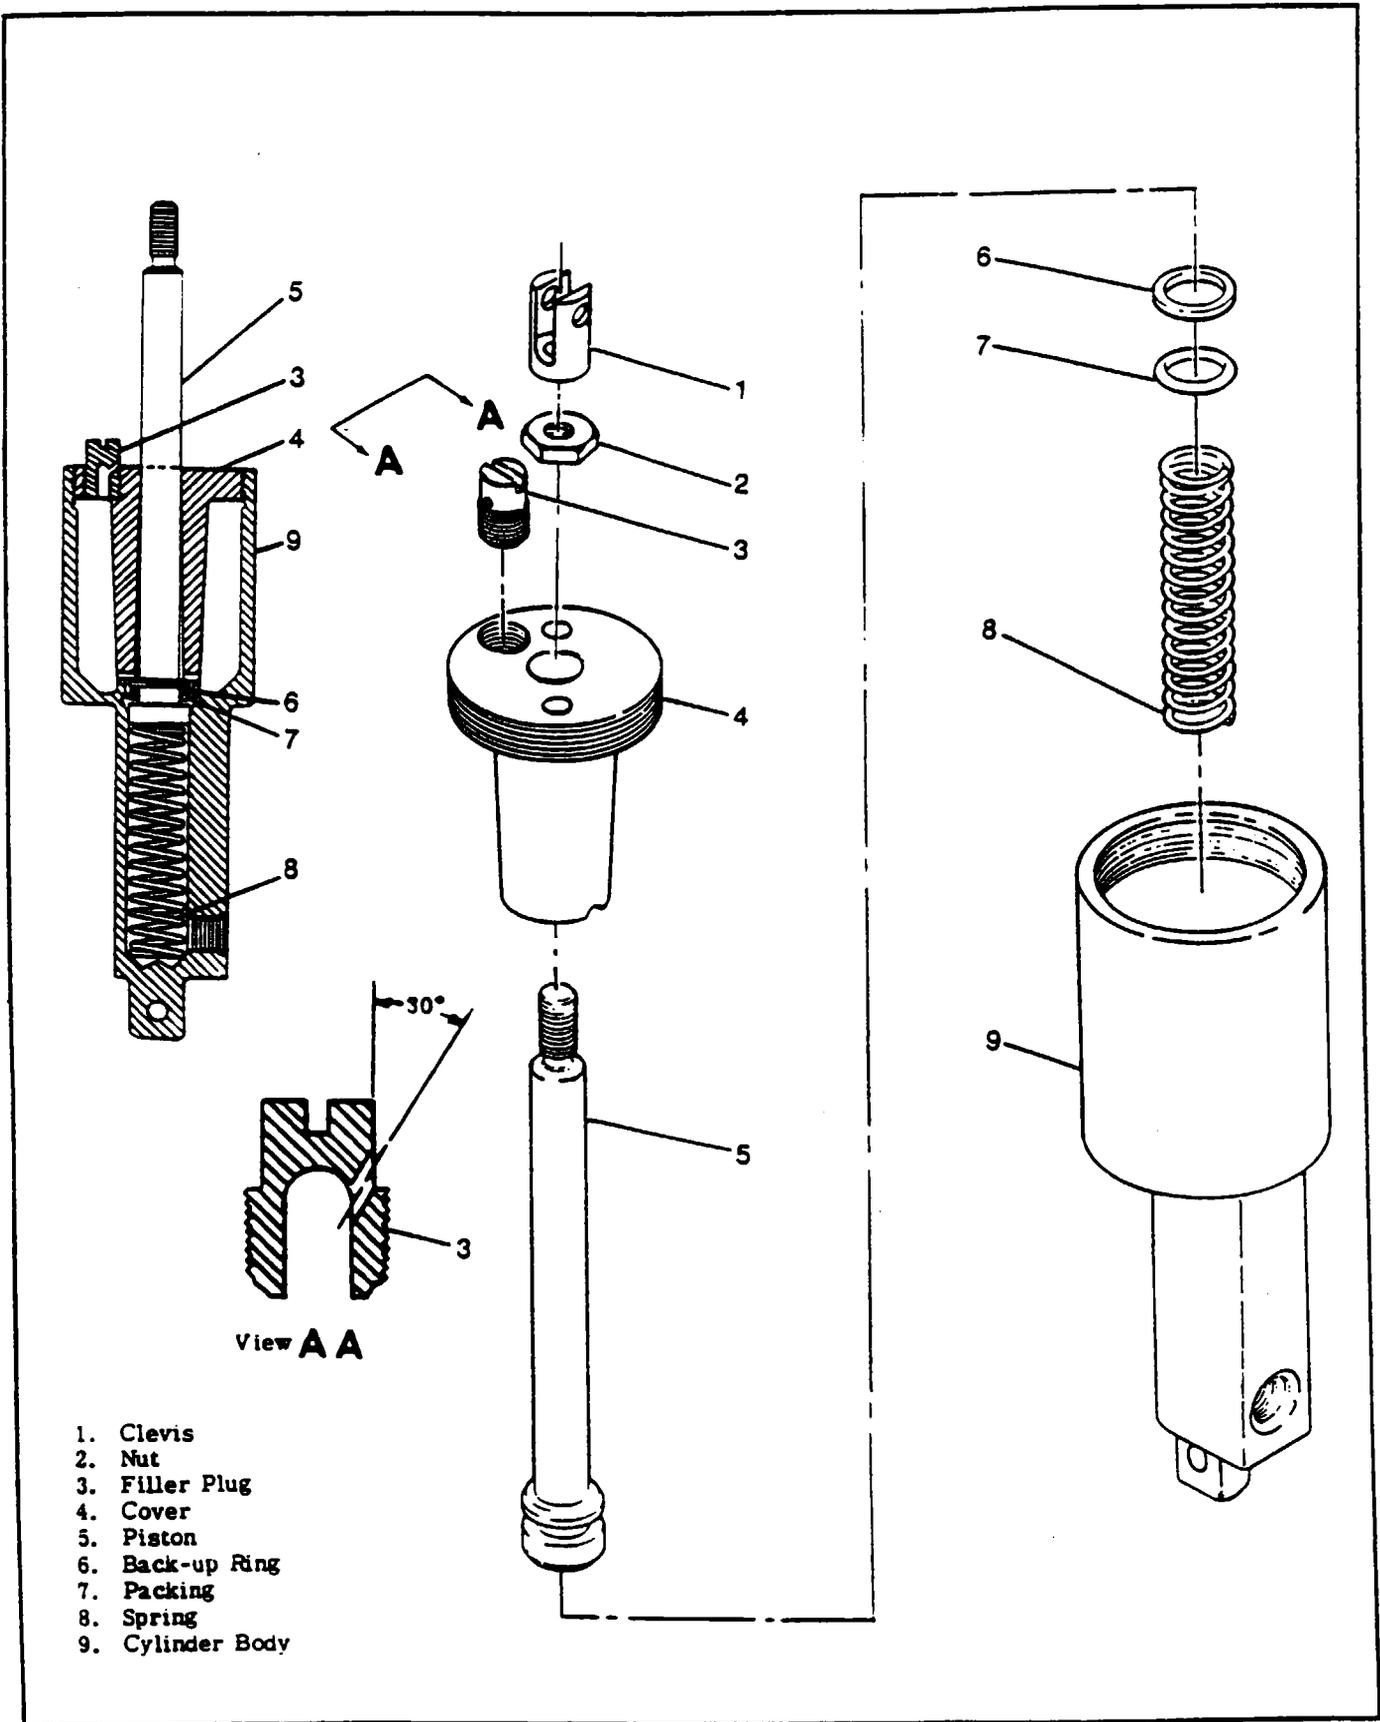

Figure 5-28. Master Brake Cylinder
5-137. BRAKE MASTER CYLINDER. (Refer to figure 5-28.)
5-140. DISASSEMBLY. (Refer to figure 5-28.)
- c. Unscrew cover (4) and remove up over piston (5).
- d. Remove piston (5) and spring (8).
- e. Remove packing (7) and back-up ring (6) from piston (5).
5-141. INSPECTION AND REPAIR. (Refer to figure 5-28.) Repair is limited to installation of new parts and cleaning. Use clean hydraulic fluid (MIL-H-5606) as a lubricant during reassembly of the cylinder. Replace packings and back-up rings. Filler plug (3) must be vented so pressure cannot build up during brake operation. Remove plug and drill 1/16-inch hole, 30° from vertical, if plug is not vented. Refer to View A-A for location of hole.
5-142. REASSEMBLY. (Refer to figure 5-28.)